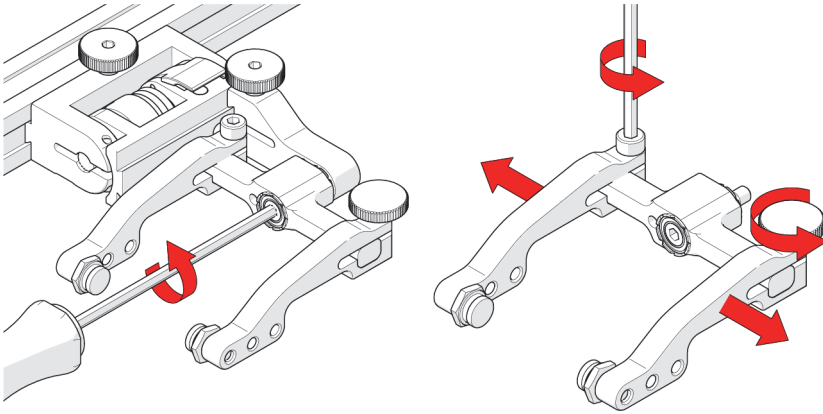

Figure 2-39 Unscrew pivot screw and remove arms
1. Unscrew the yoke from the swing arm (see Figure 2-39 on page 64).
2. Loosen the probe holder arm adjustment knob and arm clamp screw. Slide the arms from the yoke (see Figure 2-39 on page 64).